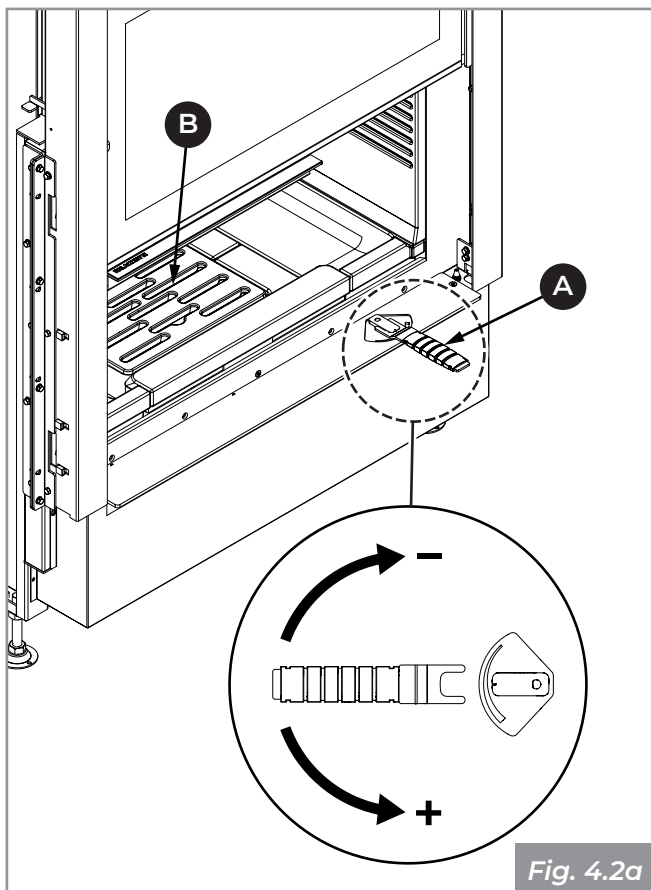
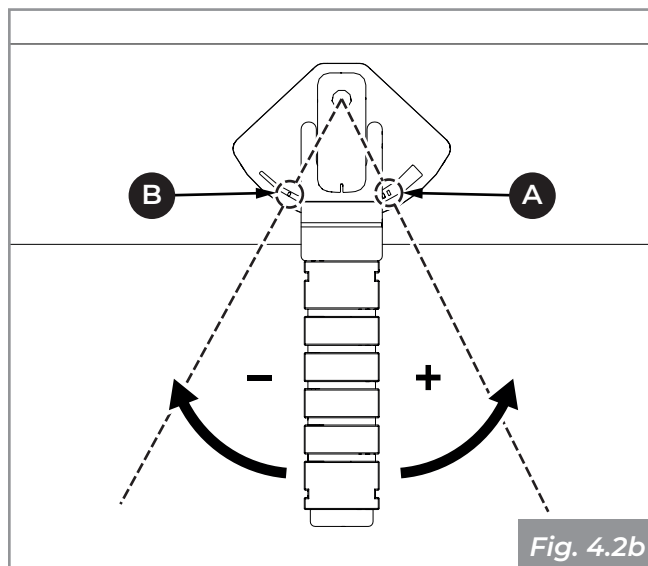
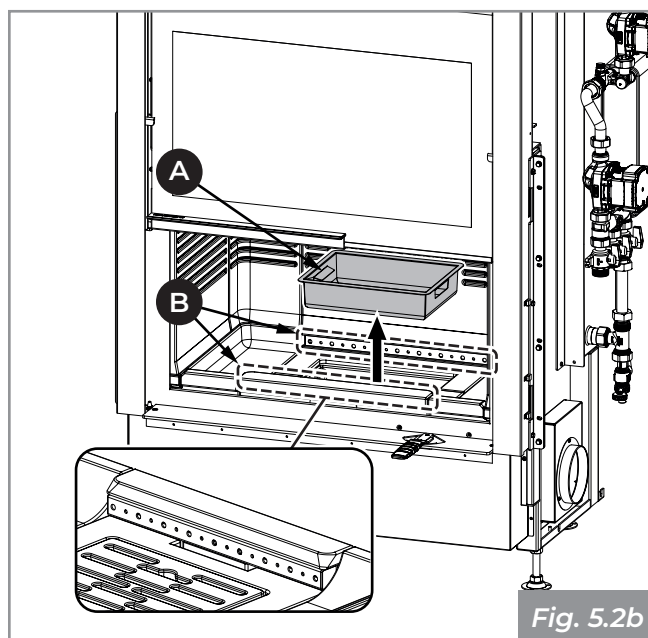

Fig. 4.2a
Fig. 4.2b
Fig. 5.2b
2. Using the cold handle (provided) **(A - Fig. 4.2a)**, fully open (+) the main air adjustment **(position A - Fig. 4.2b)**;
3. Carefully place the logs in the combustion chamber, making sure not to completely cover the slots in the grill **(B - Fig. 4.2a)** and the front and rear holes of the combustive air distributor **(B - Fig. 5.2b)**;
8. Keep the air inlet open to ensure a high, bright flame **(position A - Fig. 4.2b)**;
9. Only reduce the air inlet aperture **(position B - Fig. 4.2b)**, using the special cold handle, once a good base of embers has formed.
Pull the ash drawer out from the base and vacuum up any ash deposited in the compartments underneath (**A - Fig. 5.2b**).
Vacuum the front and rear holes of the combustible air distributor to prevent any accumulation of ash (**B - Fig. 5.2b**).